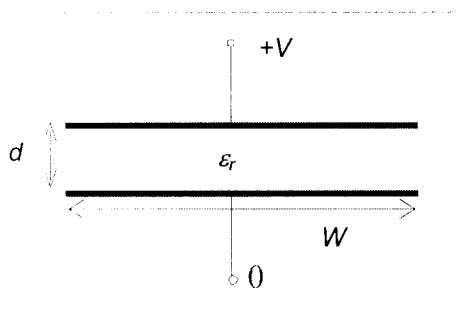

Figure 4.1
- c) Sketch in your answer book a cross-section of the capacitor like that of Figure 4.1, and add to your sketch electric field lines. Your lines should have arrows indicating the direction of the field. On a second sketch of the cross-section, draw equipotential lines. About 10 field and 4 equipotential lines are suggested. [5]